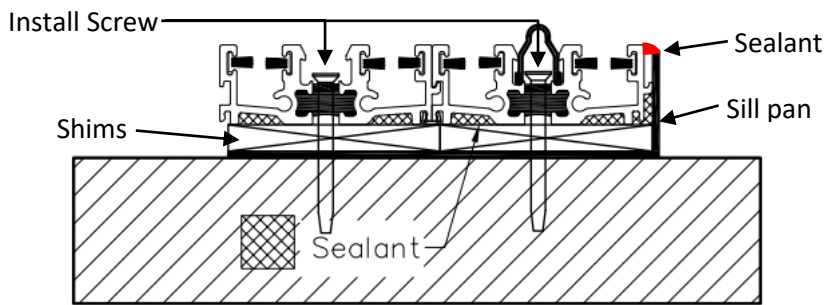
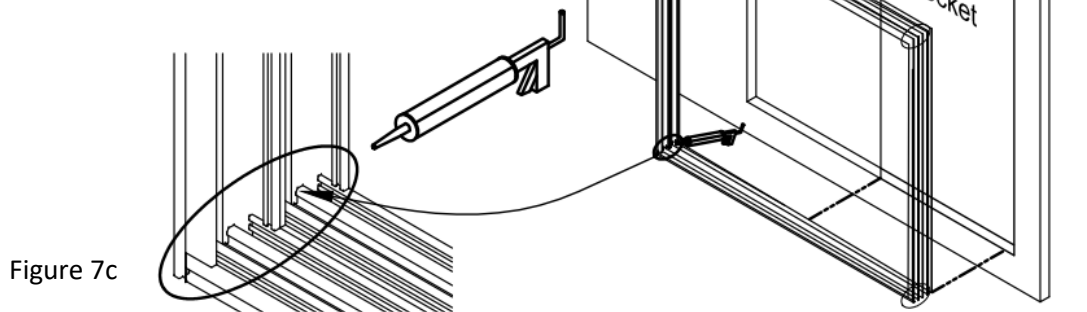

Figure 7a
Figure 7b
11. Apply a continuous bead of sealant across the entire sill of the opening and pocket where the door frame will sit, including a bead of sealant between the sill pan and frame on the interior side as shown in figure 7a, then insert door frame into the opening and pocket as shown in figure 7b. (Sealant should conform to AAMA 802.3-16 and 803.3-16). After frame is installed, seal all 4 corners per detail 7b and 7c. Make sure the exterior and weeps are not covered with sealant to allow water in the tracks to weep out. Install screws where there are shims on the sill.